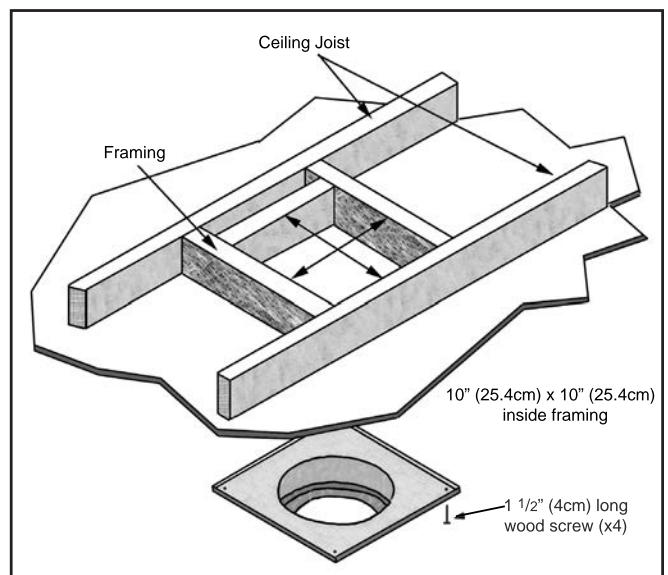
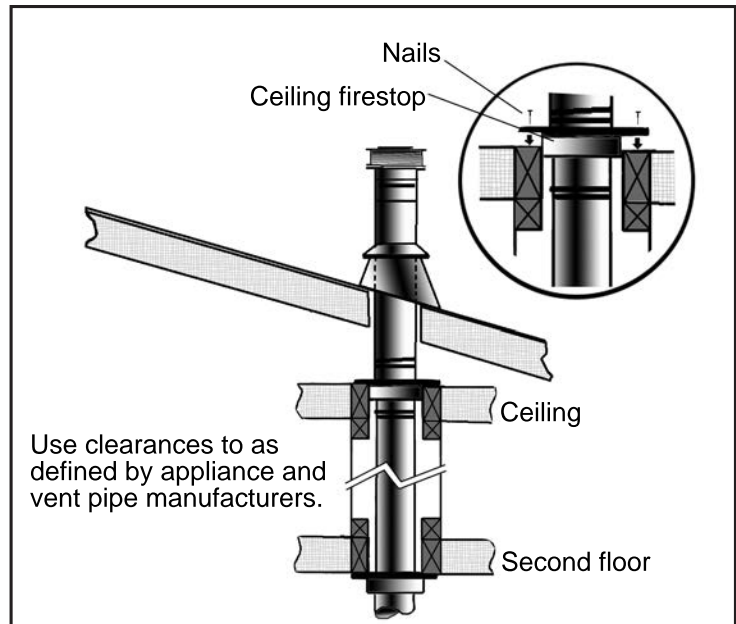

Figure 28: Wall Framing for Hole for Vertical Installation.
Figure 32: Multi-Story Vent Pipe Installation
3. To install the Round Support Box/Wall Thimble in a flat ceiling, cut a 10" square hole in the ceiling, centered in the hole drilled in Step 2. Frame the hole as shown in Figure 28.
- (c) For multi story installations. A ceiling firestop is required at the second floor, and any subsequent floors (see Figure 32). The opening should be framed to 10" (25.4 cm) x 10" (25.4 cm) inside dimensions, in the same manner as shown in Figure 28.